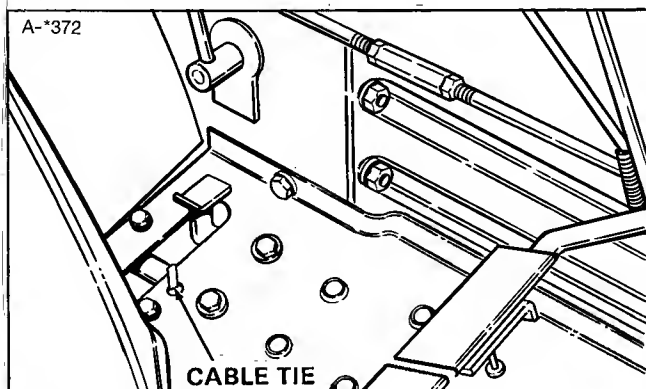

Figure 9
11. Route these two hoses under the right-hand footrest and then up to the right-hand rear fender. Route hoses over top of lift lever rod (6, figure 1). Use the supplied cable tie to secure the two hoses to footrest (see figure 9).